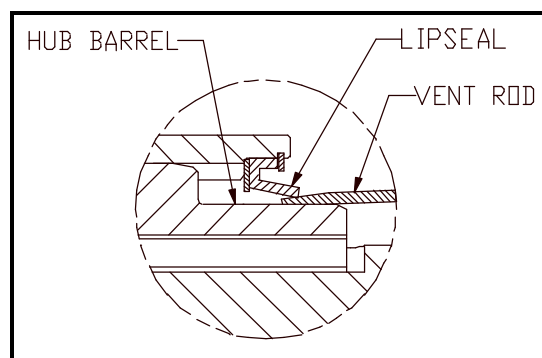

Figure 6-1
- 6.1.1 Provide a vent at about 12 o'clock position by inserting a small venting rod (**FREE OF BURRS**) between the hub barrel and the lip seal, see Figure 6-1.